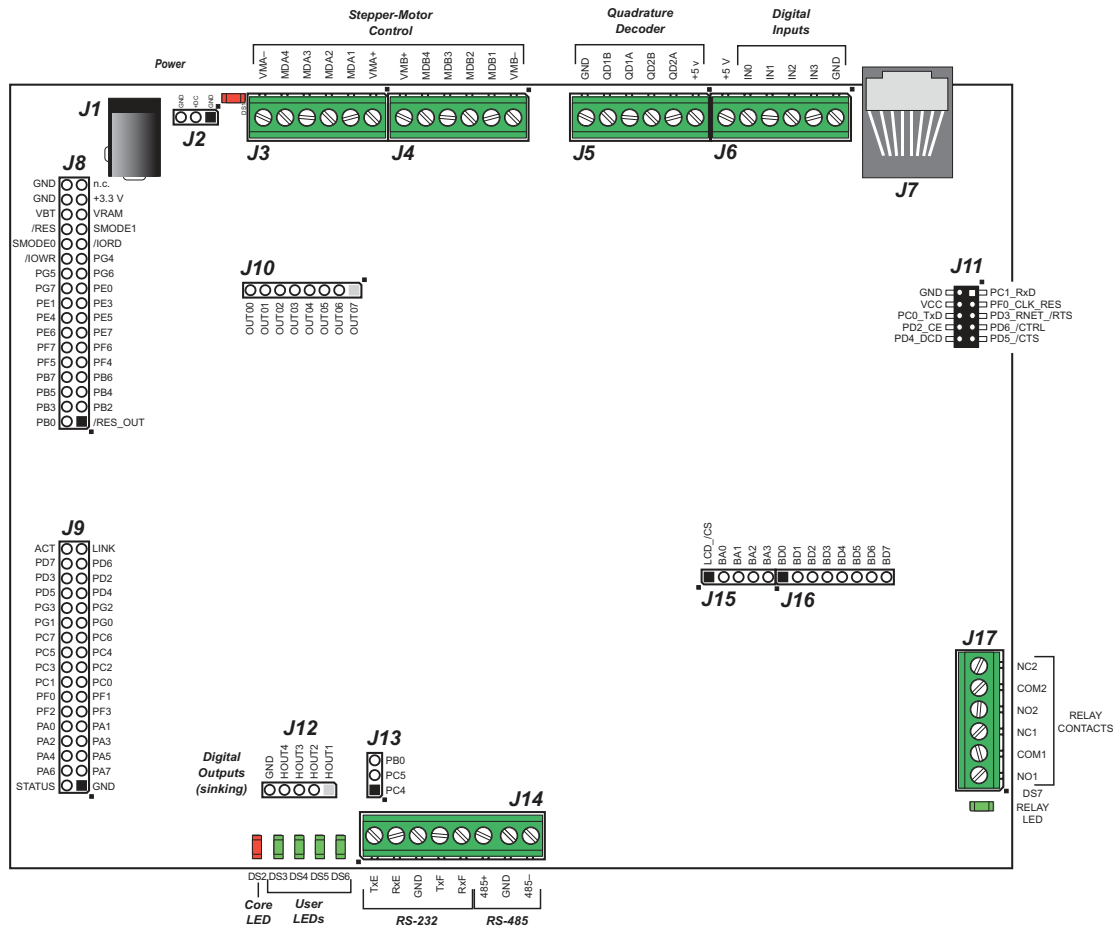

Figure B-4. Prototyping Board Pinout
- **Module Extension Headers**—The complete pin set of the RCM3365/RCM3375 module is duplicated at headers J8 and J9. Developers can solder wires directly into the appropriate holes, or, for more flexible development, 2 × 17 header strips with a 0.1" pitch can be soldered into place. See Figure B-4 for the header pinouts.
- **Digital I/O**—Four digital inputs are available on screw-terminal header J6. See Figure B-4 for the header pinouts.
- **Quadrature Decoder**—Four quadrature decoder inputs (PF0–PF3) from the Rabbit 3000 chip are available on screw-terminal header J5. See Figure B-4 for the header pinouts.
- **H-Bridge Motor Driver**—Two pairs of H-bridge motor drivers are supported using screw-terminal headers J3 and J4 on the Prototyping Board for stepper-motor control. See Figure B-4 for the header pinouts.
The Prototyping Board pinouts are shown in Figure B-4.